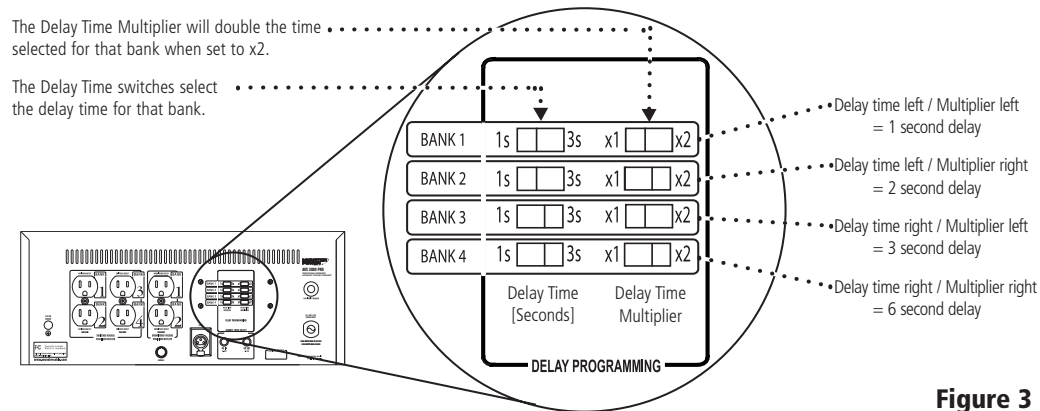

Figure 3
3. **Delay Programming:** Sets the power-up delay time for the switched outlets (see Fig.3).
The four switched outlets located on the back of the AVS 2000 PRO can be individually programmed to delay power-up between 1 to 6 seconds. This means, in order to program each outlet, use the slide switches seen in Figure 3.